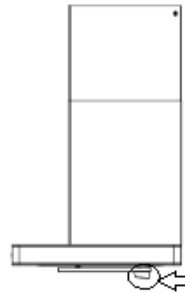

Fig.11
- Oil collector removing reference drawing steps (Fig.11).